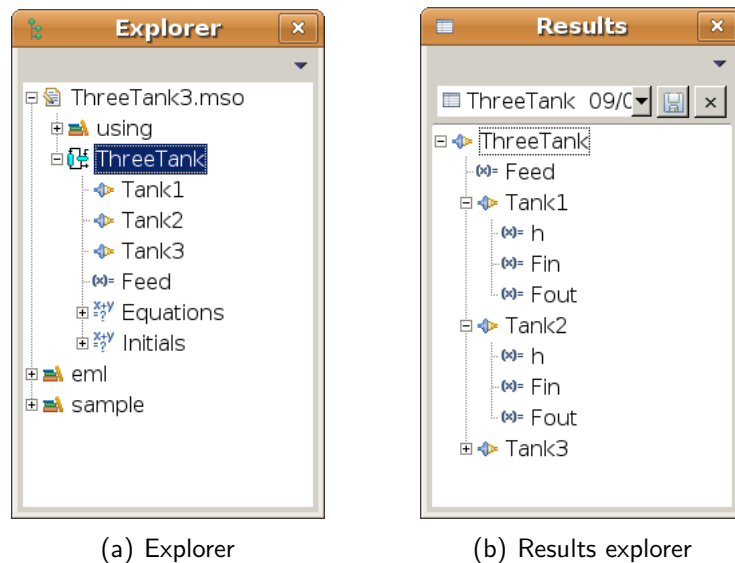

Figure 2.2: EMSO Explorer and Results windows.
**Explorer :** displays the available libraries of models and the current loaded files and its contents (Models and FlowSheets). The Figure 2.2 (a) shows a typical view of the file explorer.
**Results :** for each task ride (e.g. a dynamic simulation) a new item is added to this window. A typical view of the results explorer can be seen in Figure 2.2 (b).